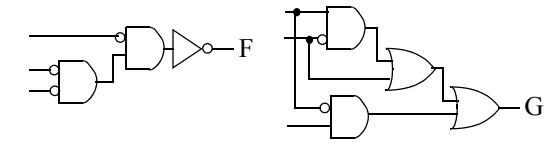

Figure 2.82
2.53 \*Figure 2.82 shows two circuits whose inputs are unlabeled.